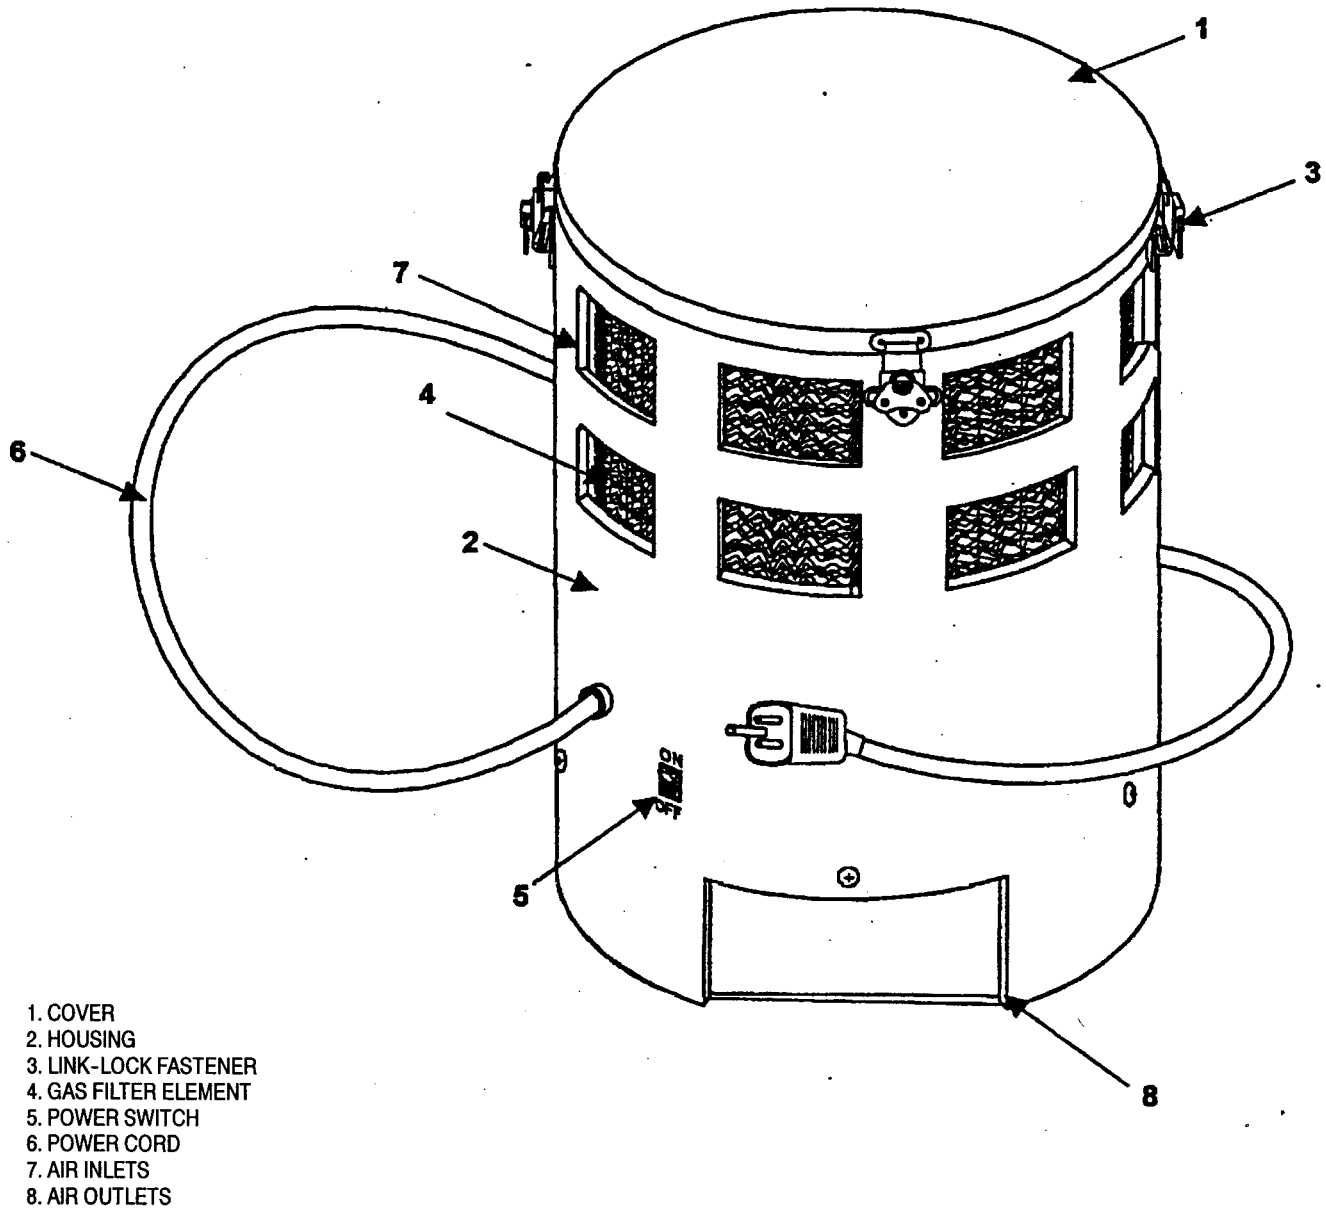

Figure 1-7. Recirculation Filter
- (5) Air Inlet/Manifold. Air from ABS inflation passes through flexible hoses into air beams.
- (6) Shut-Off Valves. In open position, allows air to enter the air beams.
- (7) Windows. Allows visibility to outside conditions.
- (8) Ambulatory Airlock Door Vents and Flaps. Used to adjust CBPS and airlock over pressure.
- (9) TALP Airlock Door Vents and Flaps. Used to adjust CBPS and TALP over pressure.
- (10) Pressure Gages. Measures air pressure in ambulatory door airlock and TALP compared to outside ambient air pressure.
- (11) Dump Caps. When caps are removed, allows deflation of air beams.
- (12) Direct Complexing Shelter (DCS) Door. Opening used when connecting to another CBPS, or for fresh air ventilation with screen installed.
- (13) Insulation Blankets. Attached to four sides and roof of ABS and used to insulate the ABS.
- (14) Speaker Assembly. Allows LMS crew to monitor radios and communicate with other units.
g. Recirculation Filter (figure 1-7).
- (1) Recirculation filter is a portable, self-contained unit to filter any residual NBC contaminants inside the ABS. The cover (1) is attached to housing (2) by four link-lock fasteners (3). The housing contains a blower, replaceable gas filter element (4), and power switch (5). The power cord (6) provides connection to a standard 110 Vac/60 Hz socket. Air enters through air inlets (7) and is forced downward through replaceable gas filter element. Filtered air exits through air outlets (8).